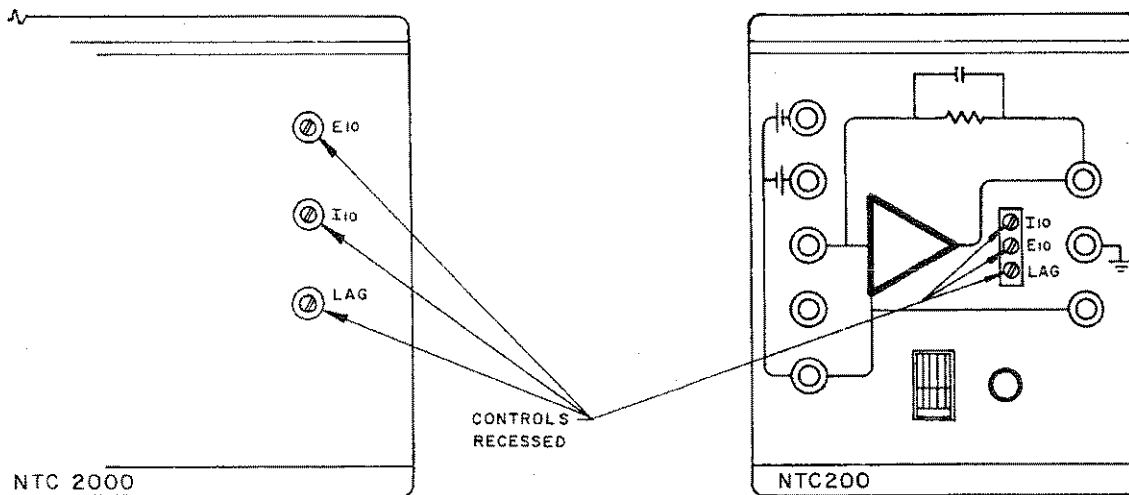

FIG. 2-1 LOCATION OF INTERNAL CONTROLS.
- c) INTERNAL ADJUSTMENTS (Refer to FIG. 2-1 and TABLE 2-1.)
- OFFSET VOLTAGE NULLING (S1 CLOSED). Turn NTC "on" and allow sufficient warm-up time until instruments have reached thermal equilibrium. Locate the offset controls. (Refer to Section II, FIG. 2-1.) Observe the "Null Detector" (M1) at the output and gradually increase the sensitivity of the meter. Adjust "E_{io} Null" (R12) until the "Null Detector" (M1) reads "zero."